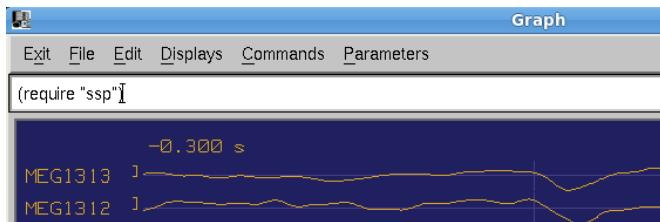

Figure 52: Add the **ssp** widget to a Graph setup.
- To apply Signal Space Projection (SSP), add an SSP widget by typing on the command line below the menus in the *Graph* display (Figure 52):